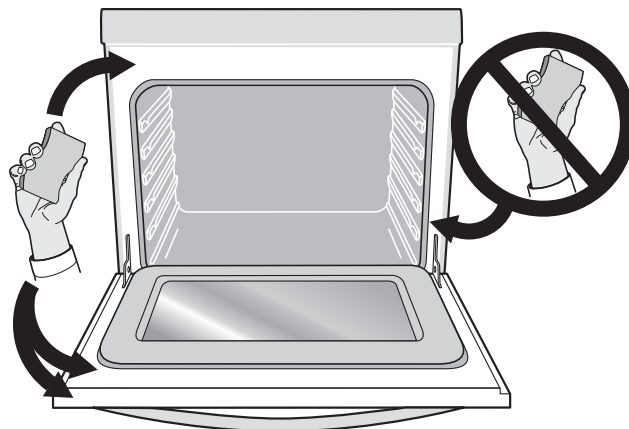

Figure 32: Oven door area to clean and not clean (gasket)
- Do not clean the oven door gasket (Figure 32). The woven material of the oven door gasket is essential for a good seal. Care should be taken not to rub, damage, or remove the gasket. Do not use any cleaning materials on the oven door gasket. Doing so could cause damage to the door gasket.
- Clean any soil from the oven frame, the door liner outside the oven door gasket and the small area at the front center of the oven bottom (Figure 32). These areas heat sufficiently to burn soil on. Clean using soap and water prior to starting fresh clean.